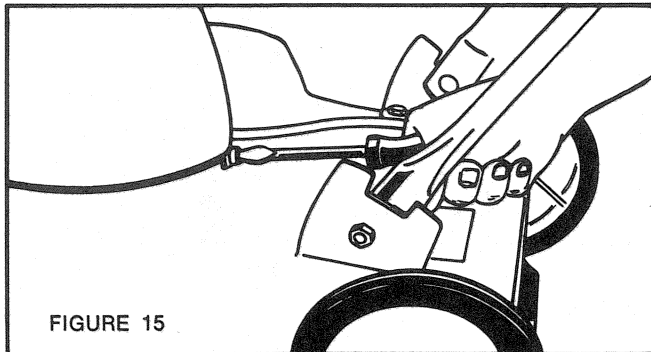
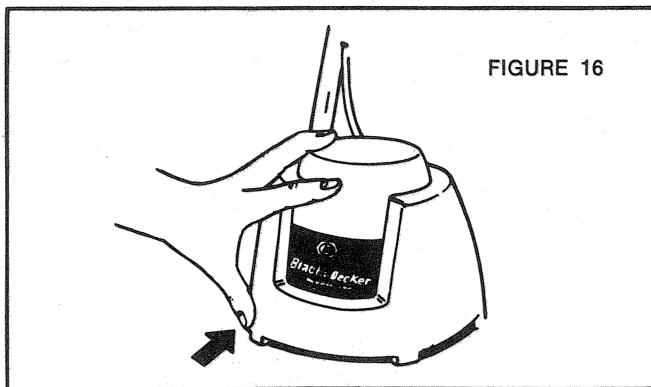

FIGURE 15
FIGURE 16
2. Remove the motor cover as follows: (a) Loosen the mounting screw at rear of the motor (Figure 15). (b) Carefully push in on the forward cover locating tab (Figure 16). (c) Tilt cover forward (toward tabs) and remaining tab will come free as cover is lifted off.
4. Replace the motor cover on deck as follows: (a) Place the cover locating tab (opposite the one you pushed in to remove cover) in its slot in the deck. (b) Carefully snap the other forward locating tab (Figure 15) in the deck. (c) Position the electric motor cord between the locating fingers on the rear of the motor cover. Do not pinch the cord. (d) Retighten the mounting screw.